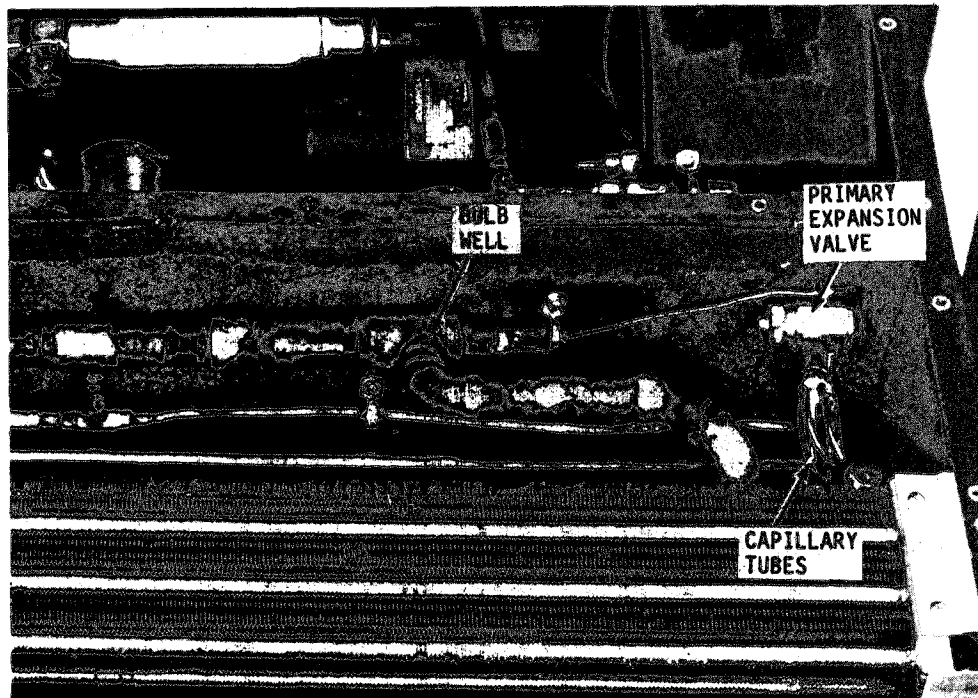

Figure 4-22. Expansion valve, primary
(2) Refer to figure 4-22 and para 5-29c(4) and check that the required length of the expansion valve's sensing bulb is fully in the suction line bulb well.
(3) Refer to figure 4-22 and examine the flow restrictor capillary tubes carefully. They should be very cold and evenly frosted. Unfrosted tubes are blocked and should be re-placed.
(4) If none of the capillary tubes is cold and frosted, the valve is
c. Test. Test the power assembly by removing the valve's sensing bulb from the suction bulb well (figure 4-22). Hold the sensing bulb firmly in both hands for two or three minutes. The warmth from holding the bulb should put enough pressure on the bellows to start the refrigerant flowing into the system. If cooling does not commence, the expansion valve is defective and should be replaced. Report all defects to direct support maintenance.